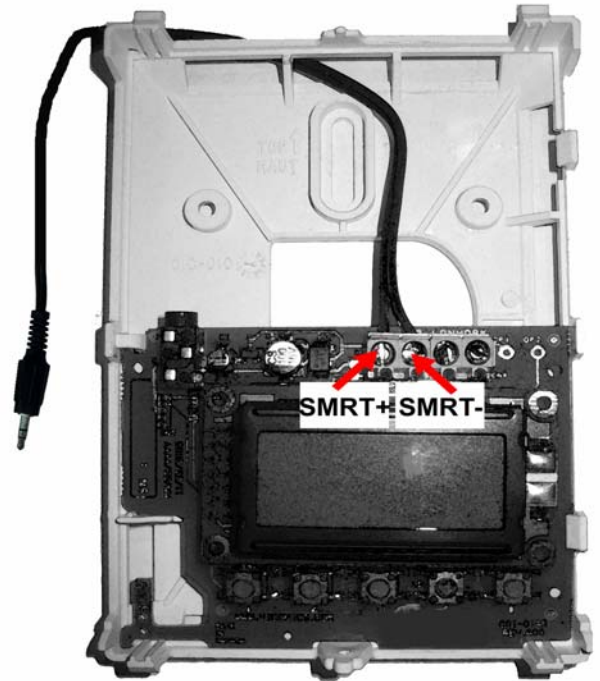

Figure 7: SMRT+ and SMRT- Output Terminals with Audio Plug
2. Connect the SMRT+ and SMRT- output terminals of the LN-VSTAT sensors to two wires that terminate in the 1/8 in. audio plug (Figure 7).